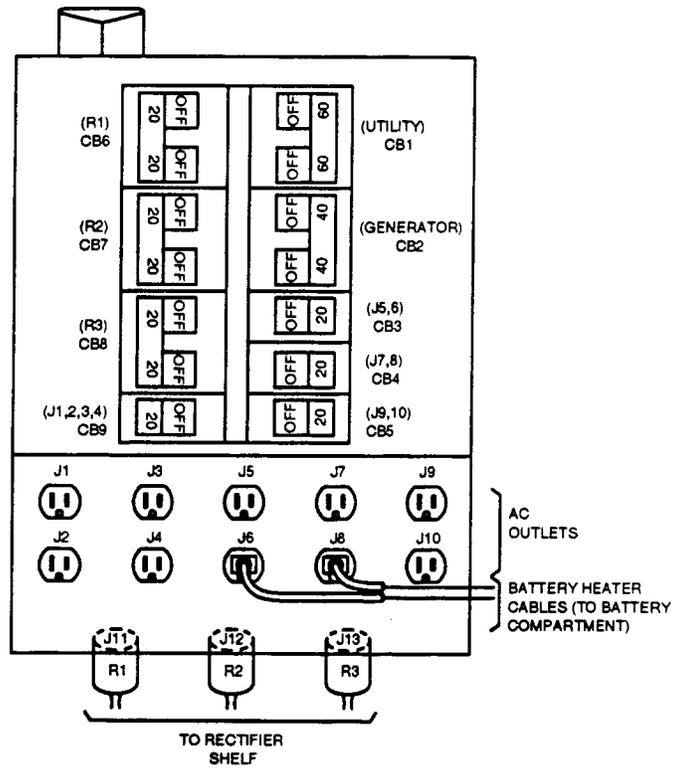

Figure 1 — Ac Power Panel in ED-7C703-30 80E Cabinet
6. On AC power panel for power unit being installed, verify that **R( )** (R1, R2, R3) AC power cord from rectifier shelf is plugged into correct AC outlet (Figure 1). Turn on **CB( )** (CB6, CB7, or CB8) circuit breaker to this feeder.